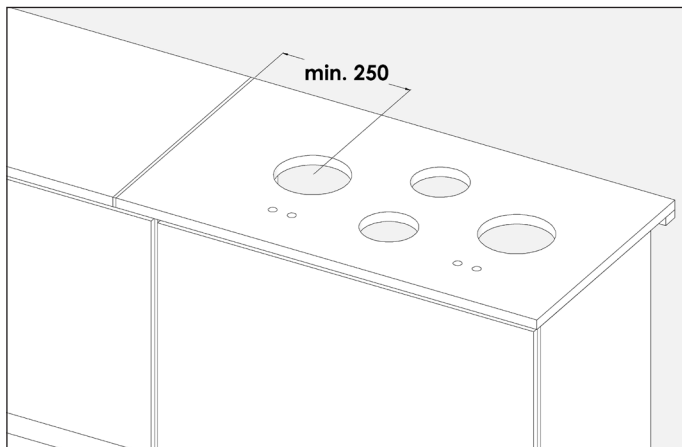
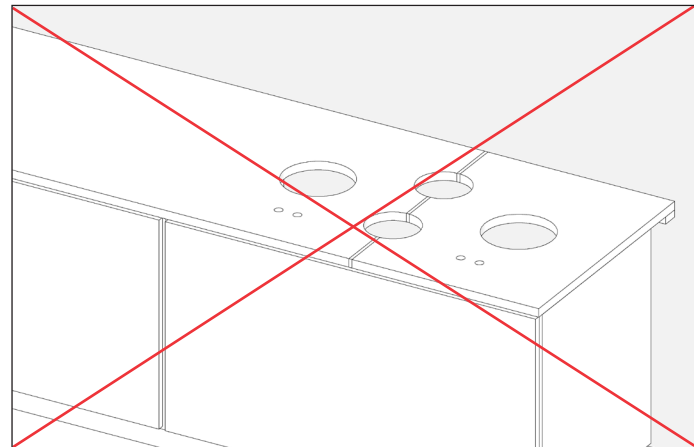

Fig. A4
Fig. A5
- Glued connections and/or coupling joints may never intersect the cutout(s). Joints must be a minimum distance of 250 mm from any cutout(s) (fig. A4 and fig. A5).